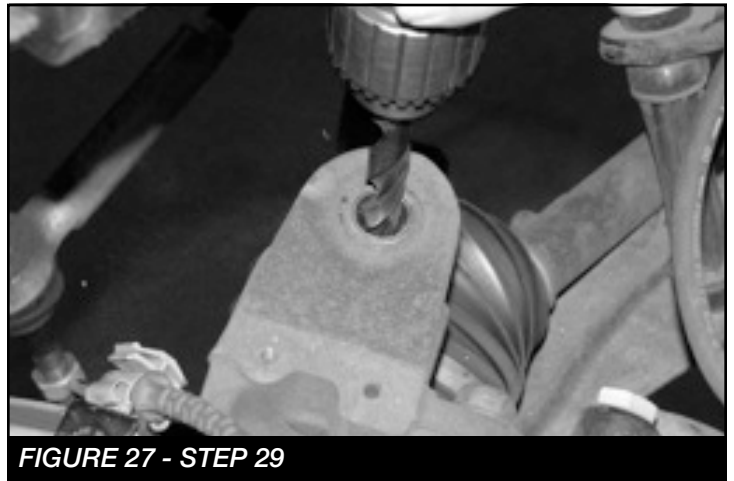

FIGURE 27 - STEP 29
29. Using a 1/2" drill, chase out the end of the upper ball joint taper on the spindle. **SEE FIGURE 27**